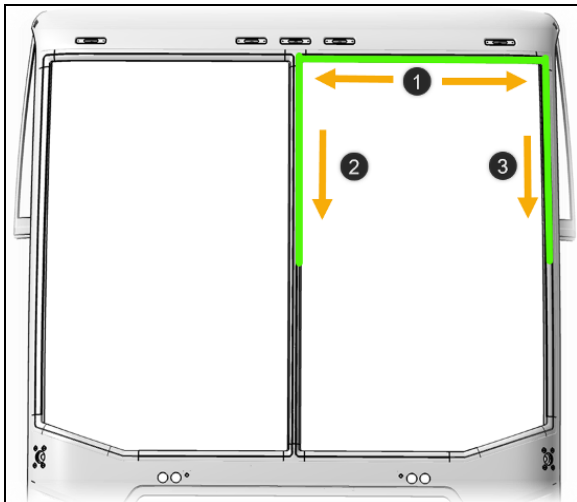

FIGURE 69
3. Insert the strip into the rubber extrusion groove. Start in the middle, at the upper end of the windshield (Figure 69).